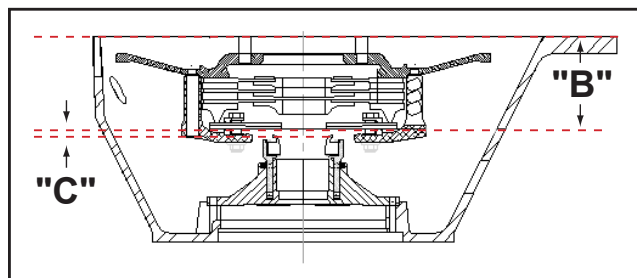

Figure 3: Distance from spring fingers to housing mounting
- 4) Measure the distance "B" shown in **Figure 3**. This is the distance from the engine/transmission housing interface to tips of the spring fingers on the clutch.